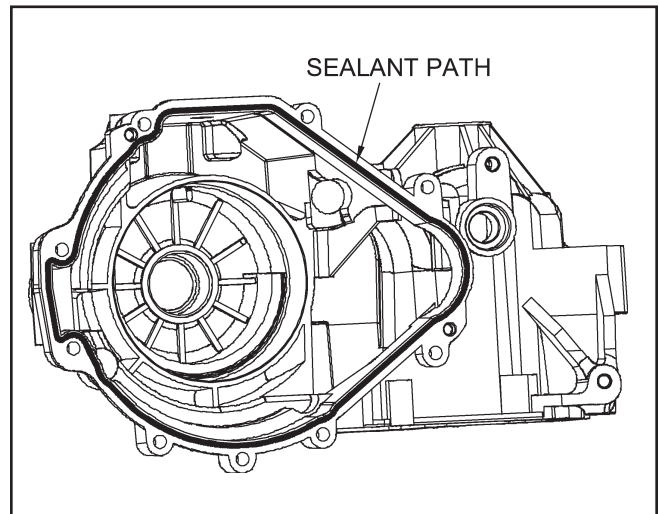

Figure 29.
2. Install the hub assembly (118, Figure 29) on the shaft. Install hex nut (119, Figure 29).
The part reference numbers provided in each assembly procedure are keyed to the individual exploded views, and are also keyed to the complete unit exploded view, Figure 29.